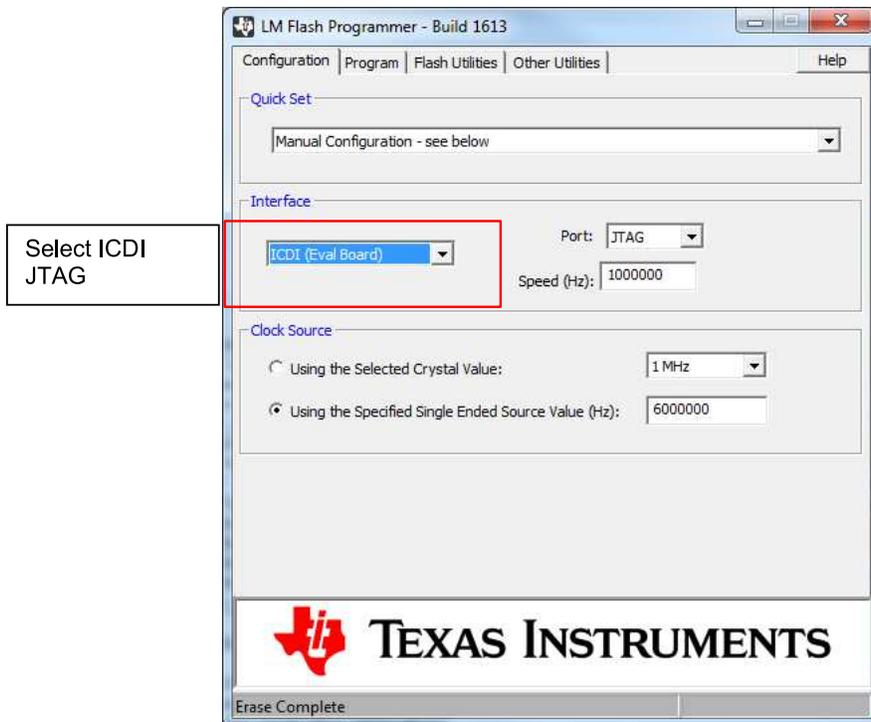
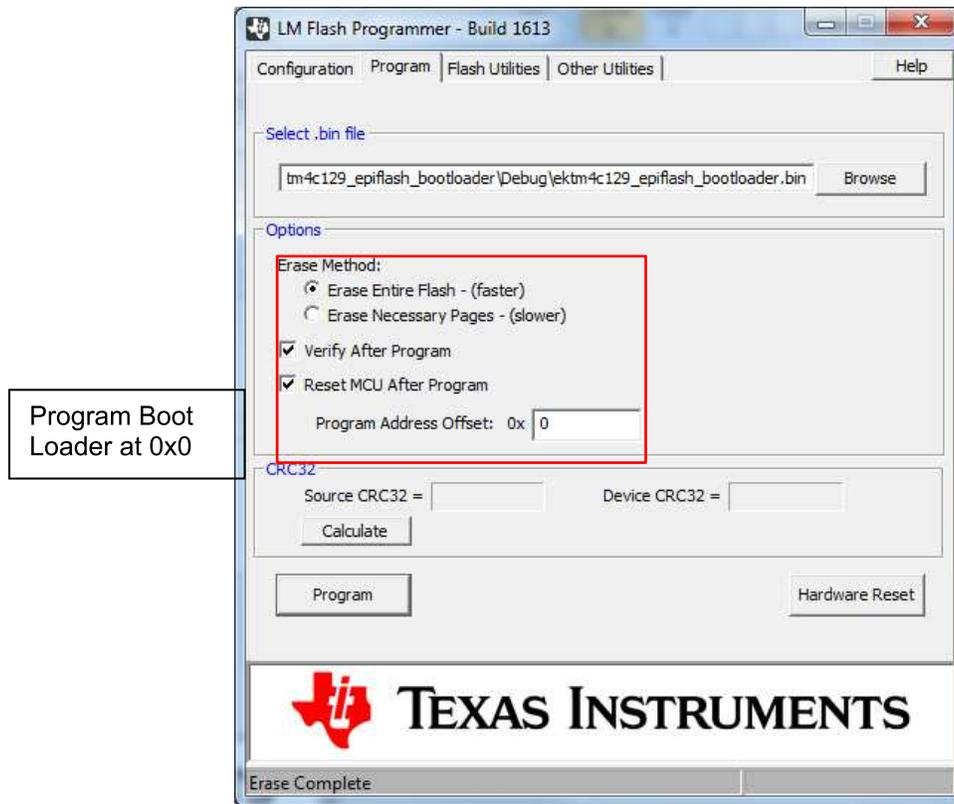

Figure 20. LMFlashProgrammer Configuration Tab for Boot Loader
Figure 21. LMFlashProgrammer Program Tab for Boot Loader
- Download the main boot loader example "ektm4c129_epiflash_bootloader" by using the LMFlashProgrammer on a fully erased Flash of the TM4C1294NCPDT connected LaunchPad. After performing checks for Flash and SRAM memory, the boot loader activates UART0 to download an image to the external parallel Flash. Figure 20 and Figure 21 show the setting of the LMFlashProgrammer.